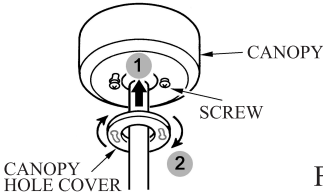

FIG.11
5. Retighten the two screws and place the canopy hole cover and twist the cover to tighter up. (see Fig.11)